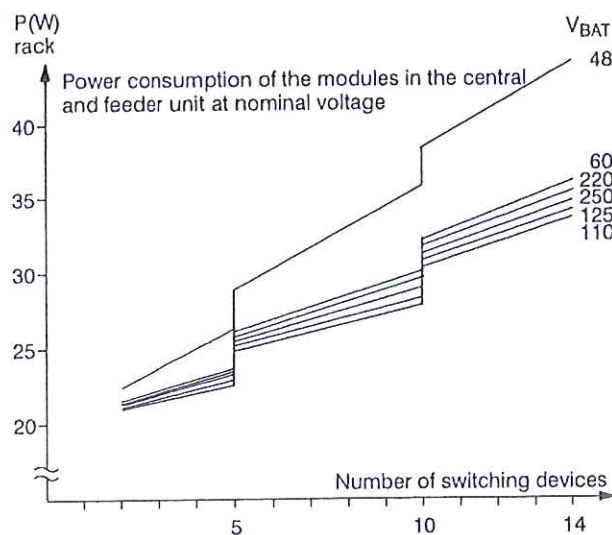

Fig. 4.3
- power consumption of the modules in the feeder unit (Figs. 4.3 and 4.4). The degree of efficiency of the power supply module has already been taken into account.
- power consumption of the central unit by addition of the power Figs. 4.3 and 4.4 (number of switching devices) and 4.5 (number of feeders).